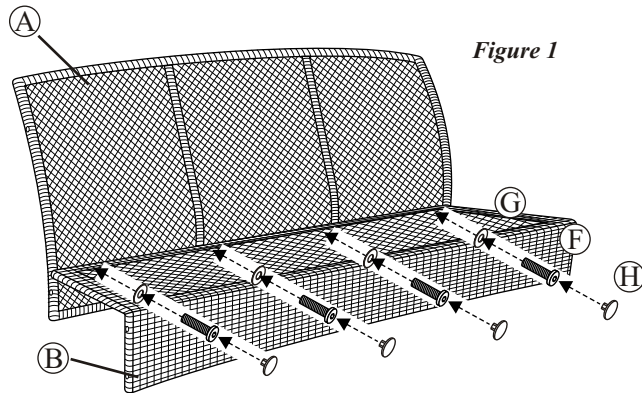

Figure 1
Step 2: Attach the seat frame to the back frame by using four 5/16"x40 mm bolts and washer as shown in *Figure 1*. Guide these bolts through the holes in the seat frame, into the fixed nuts already in place in the back frame. **Do not over tighten.**